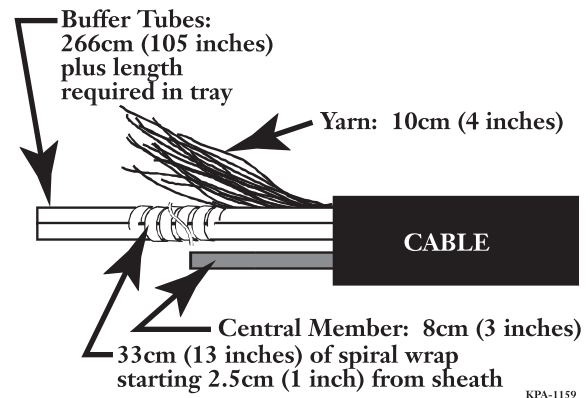

Figure 9
8.3 Prepare the cable as outlined in sheath removal instructions for the cable you are installing. Suggested sheath removal lengths are illustrated in Figure 9.